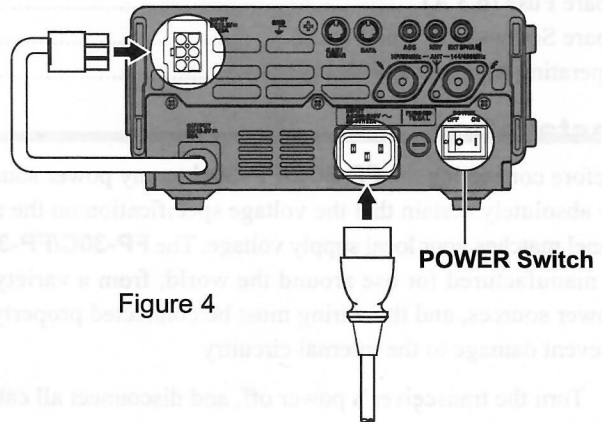

Figure 4
4. Connect the 6-pin Molex plug from the **FP-30C/FP-30U** to the INPUT jack on the rear panel of the **FT-897/D** (Figure 4).